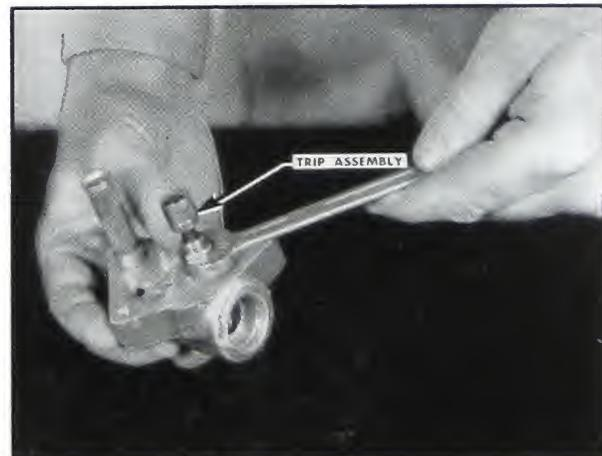

Fig. 5-251. Remove trip assembly
5. Remove the trip assembly. Fig. 5-251.